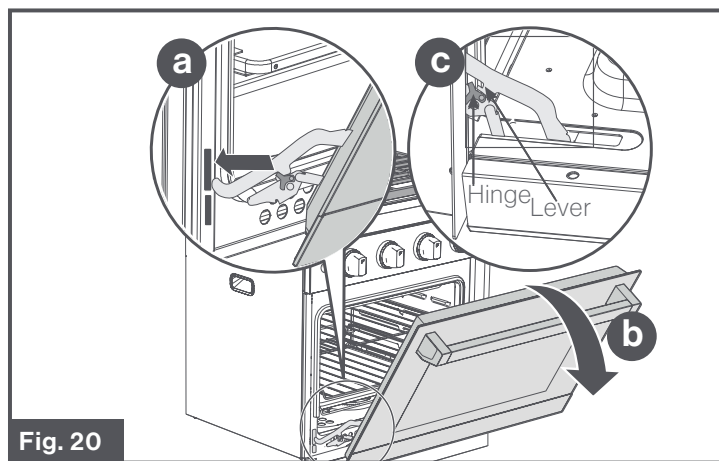

Fig. 20
7. Follow the steps below to re-attach to the oven door (Fig. 20):
- Insert the hinge into the top slot as shown in Fig 20 **a**.
- Open the door to its fully open position as shown in Fig 20 **b**. Ensure the hinge buckle has released from the lever as shown in Fig 20 **c**.